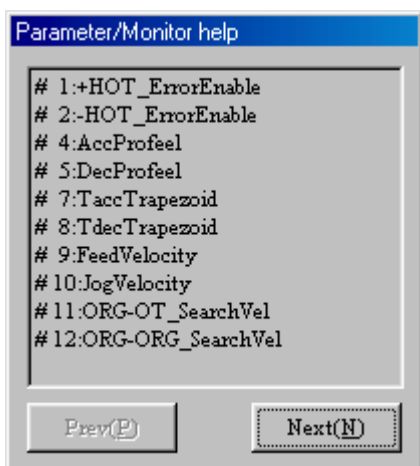

Figure 8.14 “Parameter/Monitor help” dialog box
(5) Parameter/monitor help
In the “Terminal” menu, click “*Parameter/Monitor help (H)*” under “List” to display the “Parameter/Monitor help” dialog box (see Figure 8.14).